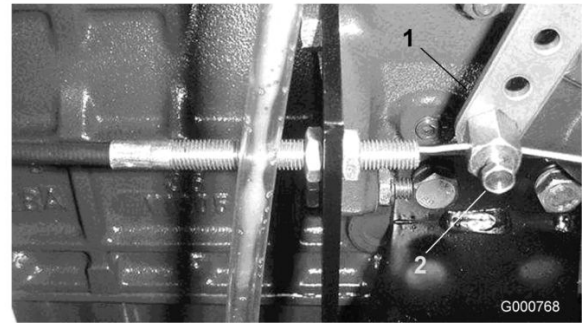

Figure 57
2. Loosen the throttle cable connector on the lever arm at the injection pump (Figure 57).